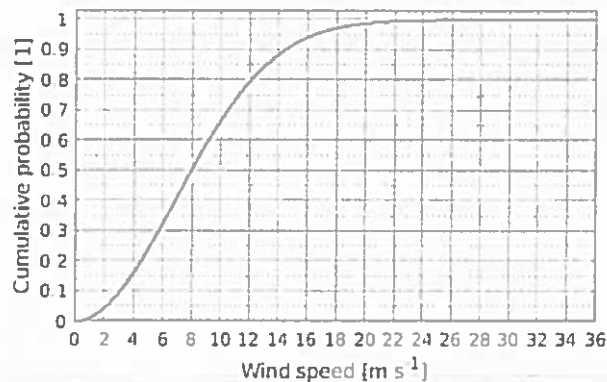

Figure Q1.2- Cumulative probability distribution of the wind speed.
- b) The graph in Figure Q1.2 shows the cumulative probability distribution of the wind speed for a site where a wind turbine is installed. Answer the questions described below.